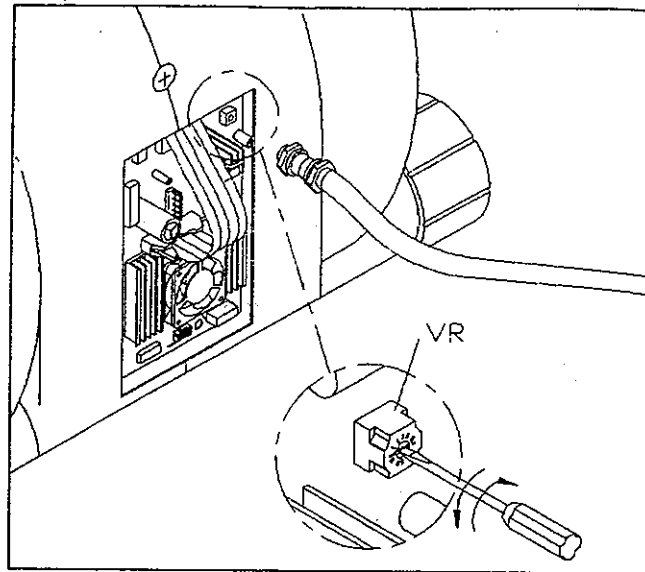

Fig. 2B
- b) The VR without the CE mark (see Fig. 2B) only allows an adjustment of 1~2 notches per time.